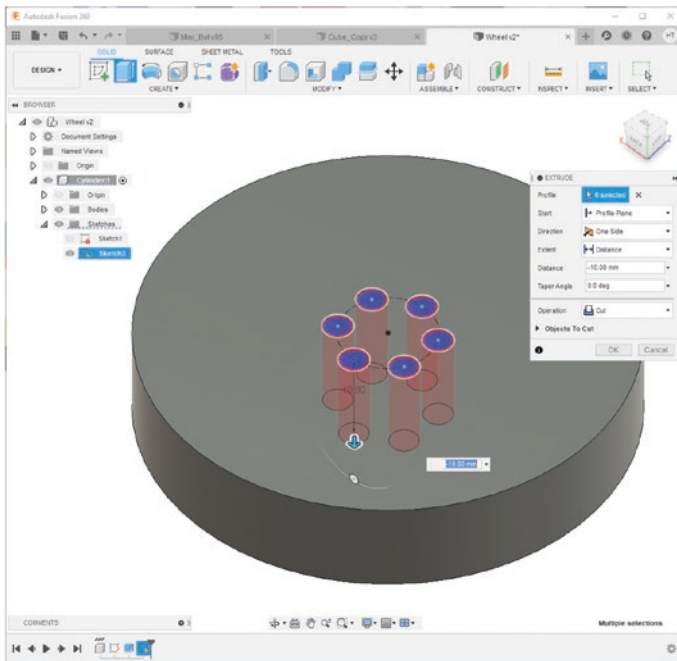

Figure 8-17. *Extrude to make six holes*
9. Select the six circles and press the “E” key. Extrude these holes to the bottom side of the cylinder. See Figure 8-17.